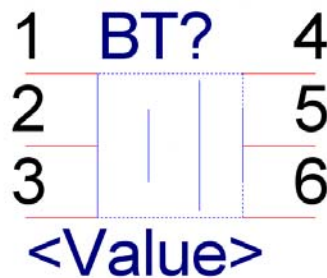

Figure 3.7: Edited Battery Symbol
- Add four more pins, and arrange them as in **Figure 3.7**